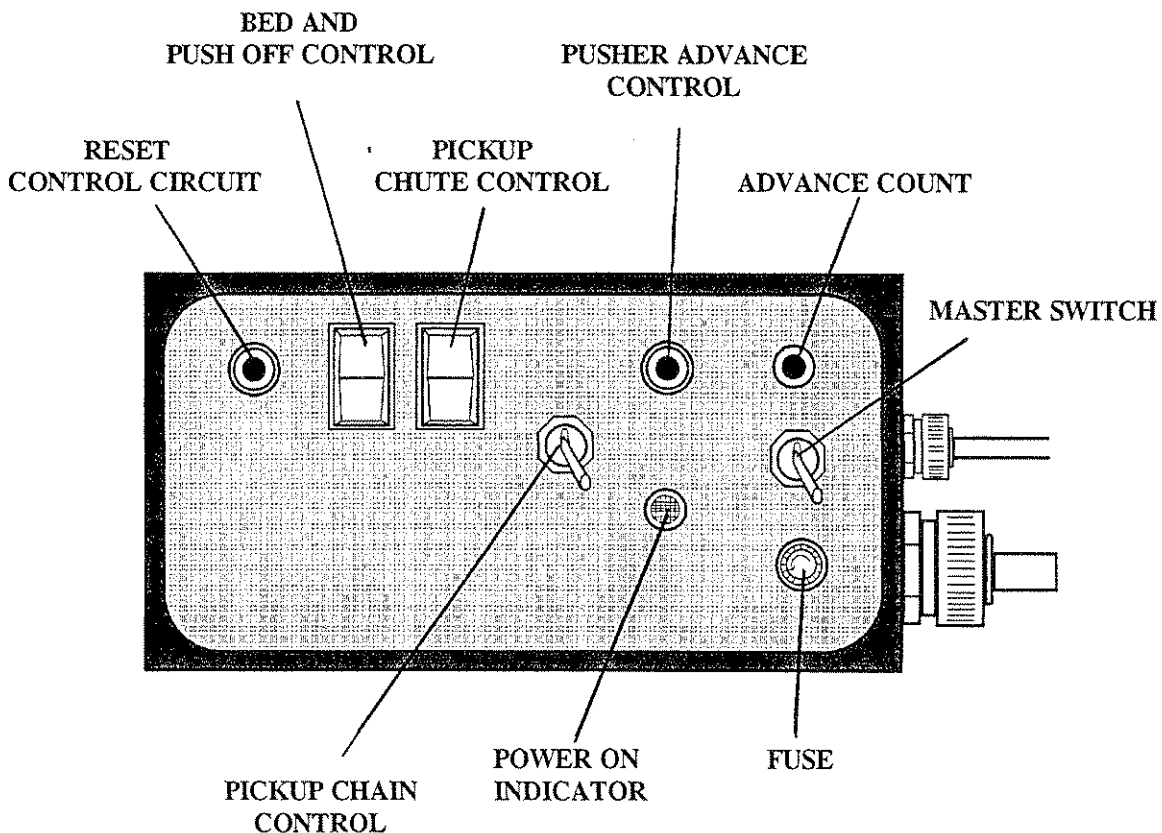

Fig. 1, CONTROL BOX
1. On the control box locate the Master Switch. Move it to the "On" (see Fig. 1) position. Be certain all personnel are clear of the machine. The safety gate on the service ladder must be closed for the control circuit to be activated.
3. Position the pickup chute down with the rocker switch on the control panel (Fig. 1).